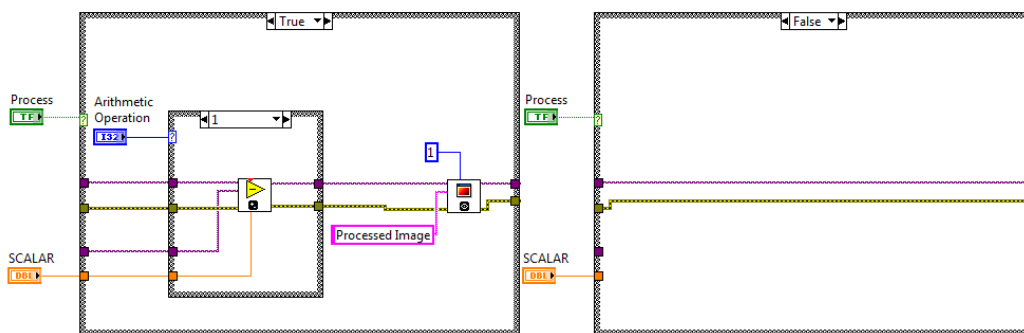

Figure 23: Left: "True" Case Block Diagram. Right: "False" Case Block Diagram
9. Complete the structure as shown in Figure 23.